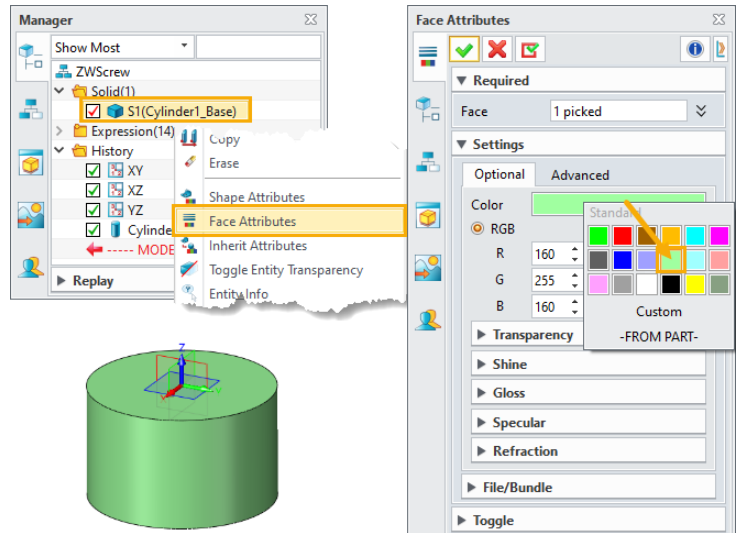

Figure 13 Set the Color of Face Attributes
**STEP 02** Right-click on the solid in the **History Manager**, select **Face Attributes**, and set the color to green, as shown in Figure 13.